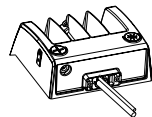

figure 4.1
4.1 Installed with yoke mount(suitable for all power of this series) (suitable for 20W,35W,60W,80W,95W) (FM)
- Step 1: Take the lamp out of package;(figure 4.1)